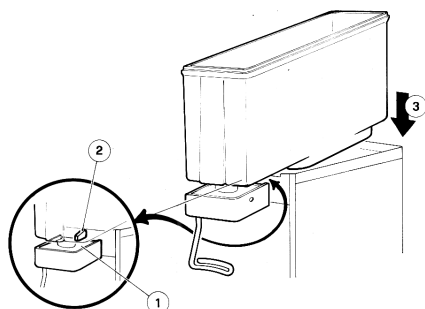

figure 8
- 4 - Fit the bowl gasket to the evaporator. Note: the largest brim of the gasket must face against the drip plate (see figure 8).
JOLLY 5/2 - 5/3 - 5/4: be sure first that the faucet top (1) is under the tooth jutting (2) out of the drip plate (see figure 8).